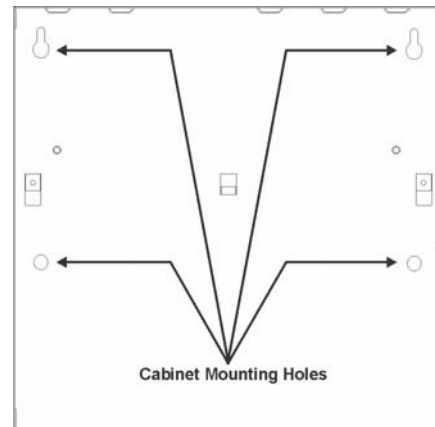

Figure 2 Cabinet Mounting Holes
4. Mount the cabinet using the appropriate screws and anchors, as shown in Figure 2.